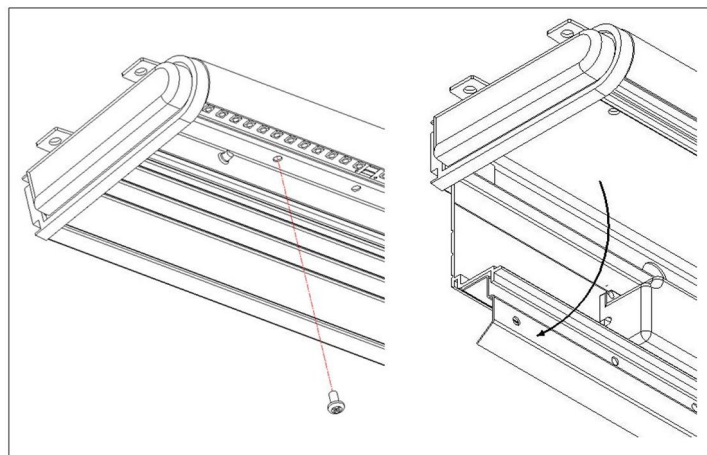

Figure 4
3. Open the wireway cover by removing the screws threaded through the LED tray. See Figure 4.